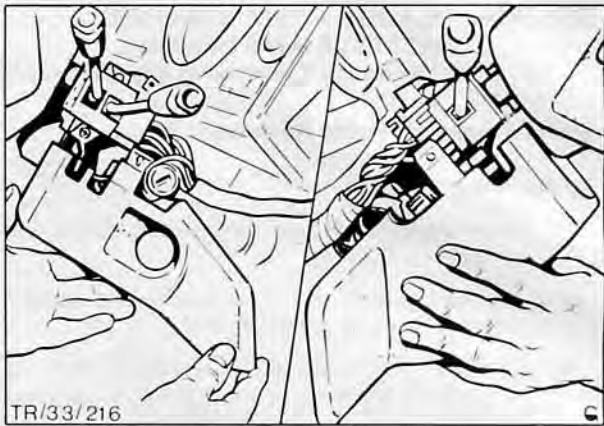

Fig. 31. Removing two lower steering column shrouds
3. Remove two screws and detach both lower steering column shrouds, Fig. 31.